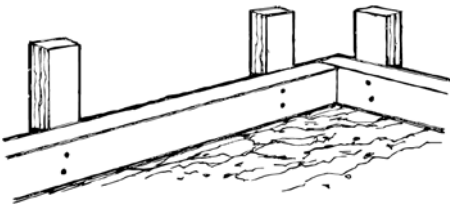

Fig 4 Nail edging boards to the stakes
- Position your edging boards along the string line and drive stakes firmly into place to support the form (see Fig 4). Ensure the top of the formwork is level and that it is at the correct height for the finished slab. Align the boards so that there are no gaps that will allow concrete to seep out and nail the boards securely to the stakes.